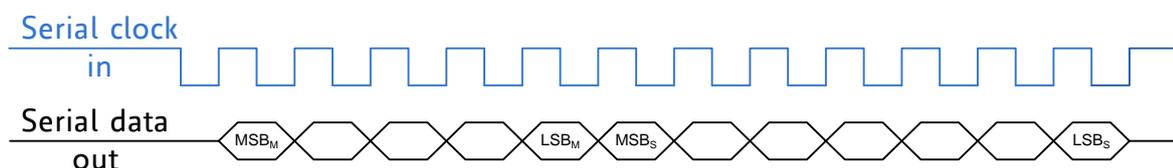

Figure 17.1 Example for SSI output configuration
- Set the number of the single- and multiturn data with *SINGLE_TURN_RES_OUT* resp. *MULTI_TURN_RES_OUT*. The real number of data bits is the given parameter setting + 1 (see Figure 17.1).